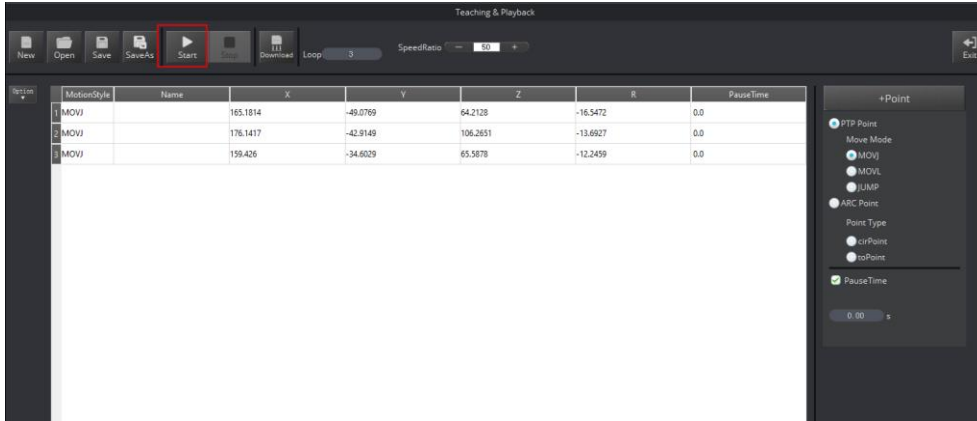

Figure 2.23 Click Start
- Click **Start** to perform the motions taught above, as shown in Figure 2.23.